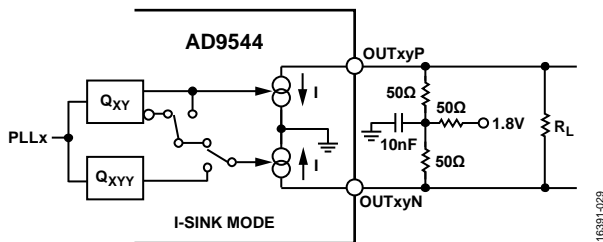
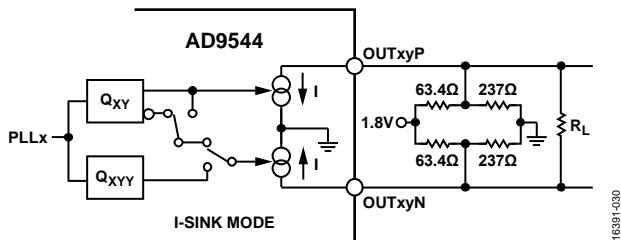

Figure 34. LVDS-Compatible Output, 1.24 V Common-Mode, T Network ( $I = 7.5$  mA;  $I = 15$  mA with Extra 100 Ω Termination,  $R_L$ )
Figure 35. LVDS-Compatible Output, 1.2 V Common-Mode, Thevenin Bias Network ( $I = 7.5$  mA; 15 mA With Extra 100 Ω Termination,  $R_L$ )
- The 15 mA mode produces a voltage swing and is compatible with LVPECL. If LVPECL dc signal levels are required, the designer must ac couple and rebias the AD9544 output. The 15 mA mode can also be used with the termination scheme shown in Figure 34 and Figure 35 to produce an LVDS signal with the correct LVDS dc bias.